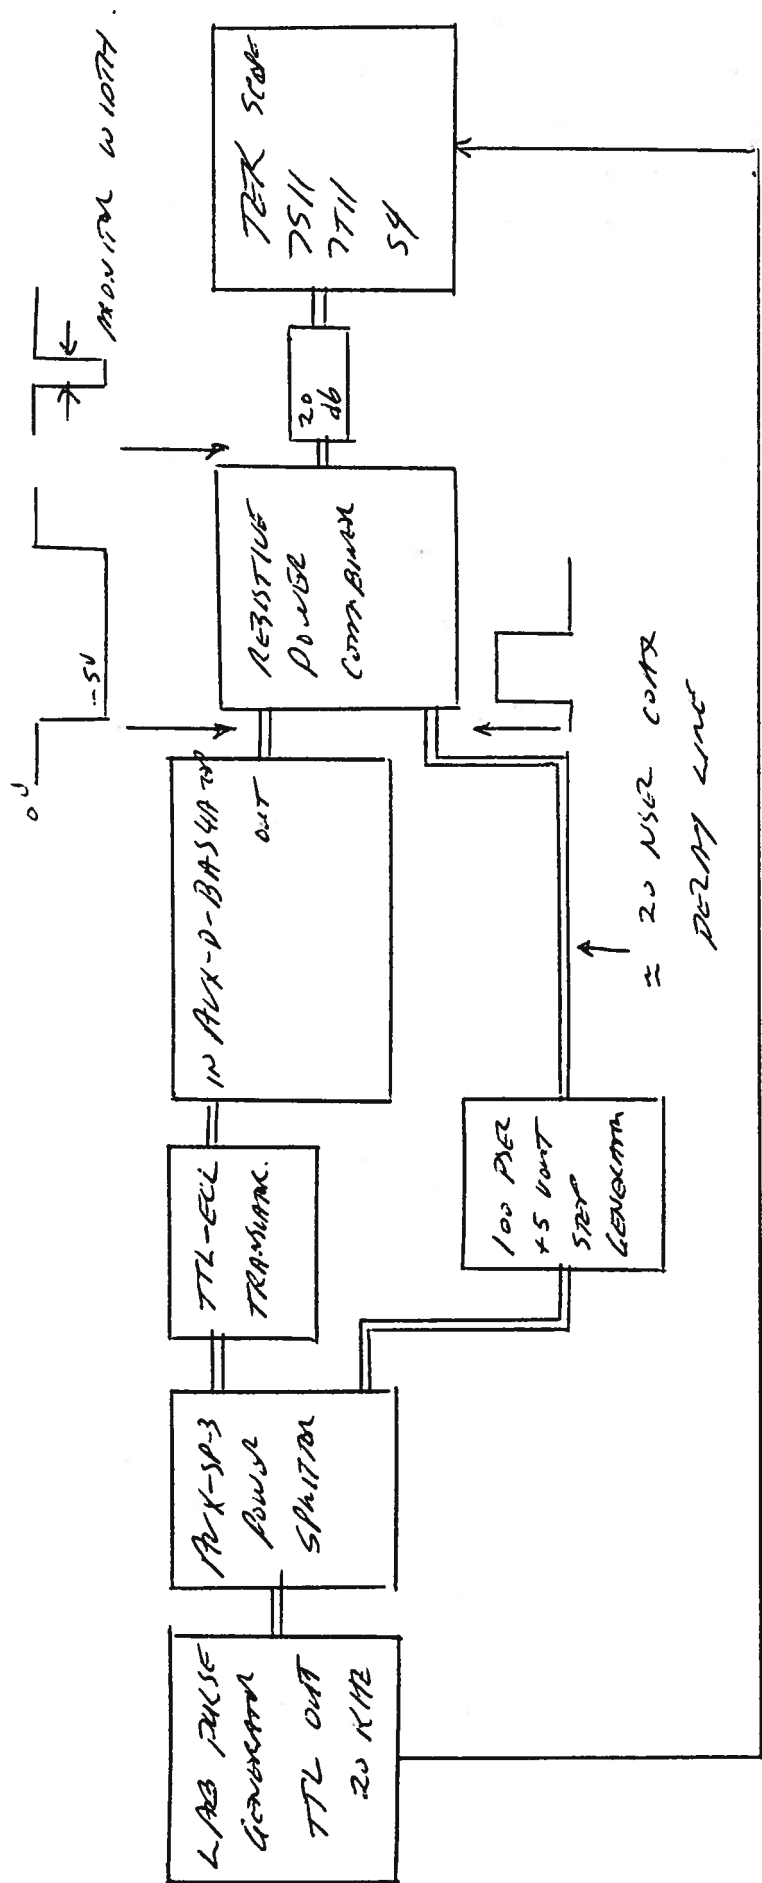

Fig 1 ARK-D-BAS 4A-CO DELAY STABILITY
- 5) The stability of the propagation delay and the step size was checked using the test arrangement shown in Fig. 1.